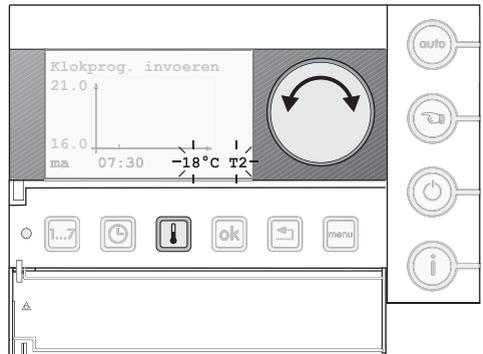

Fig. 24 Set-up temperature time program
- Keep the button "temperature" pressed and select with the set-up button the desired temperature level (Fig. 24). The switching point is graphically shown in the display.